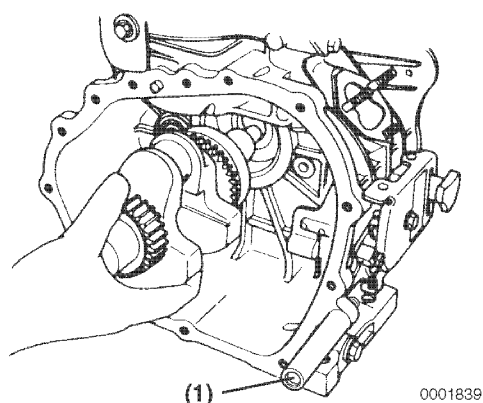

Figure 6-49
17. Remove the crankshaft from the open end of the crankcase. It will be necessary to use a heavy soft-faced hammer to drive the crankshaft out of the crankcase and drive the large main bearing out. Reinstall the flywheel nut to protect crankshaft threads while driving crankshaft and large bearing out. Keep crankshaft aligned as it is driven out by supporting the opposite crankshaft end (**Figure 6-49**).
*Do not attempt to adjust or remove the fuel limiter (**Figure 6-49, (1)**) assembly from the crankcase.*